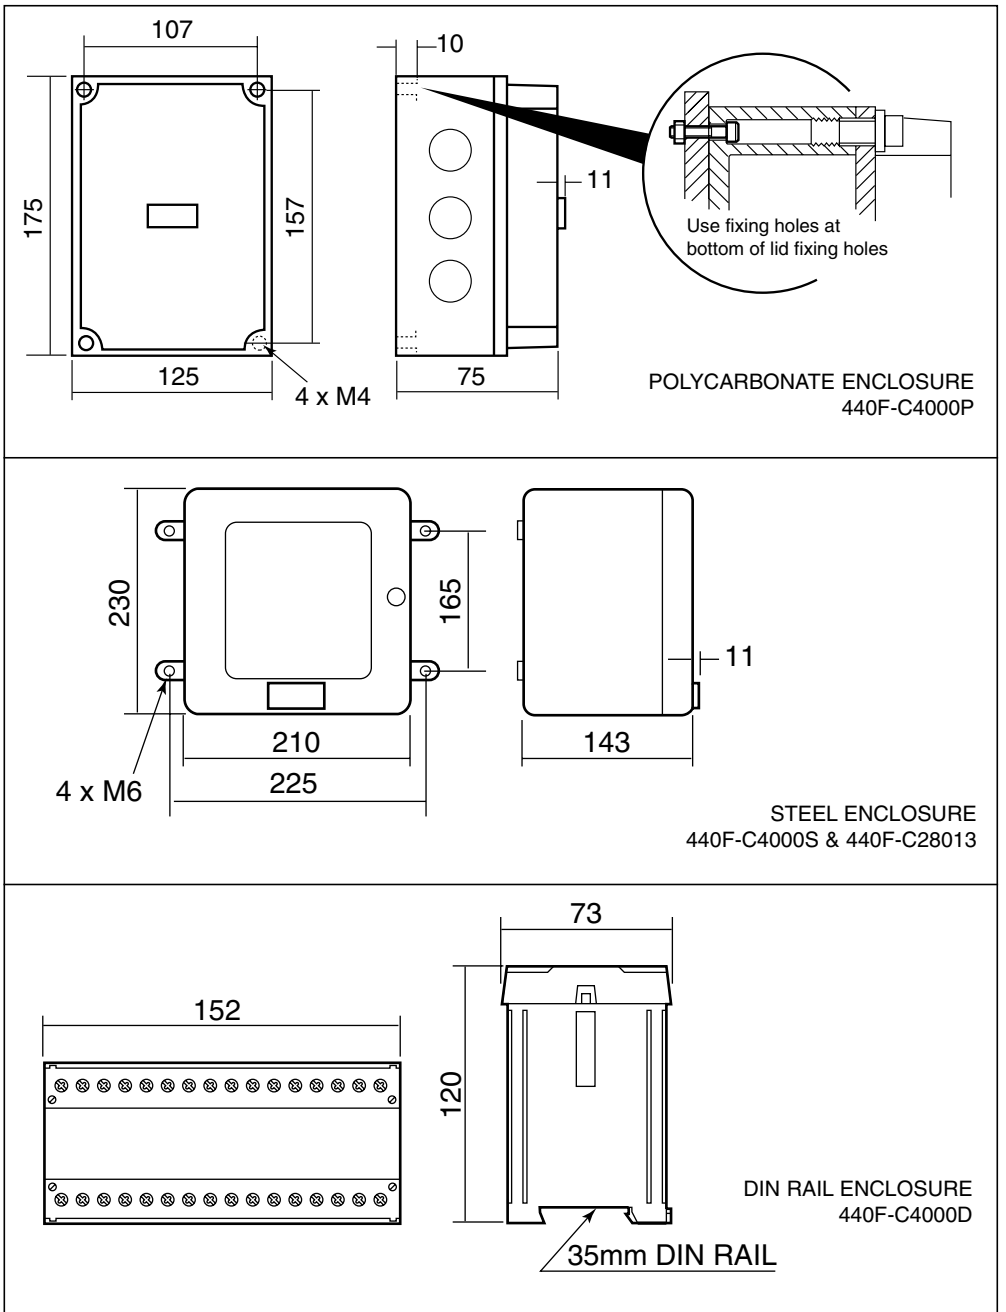

Fig. 8 Dimensions (not to scale).
5.3.7 CONTROL UNIT MOUNTING (refer to section 4 fig. 8)